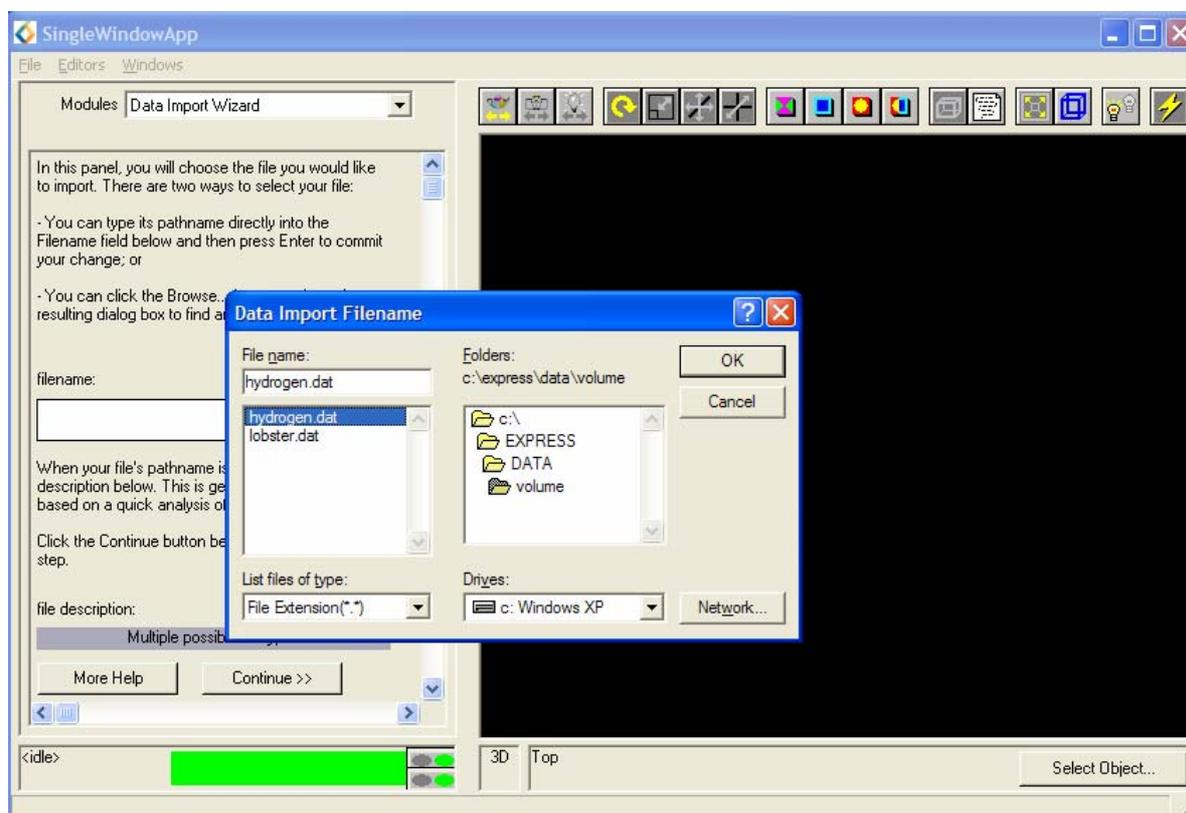

Figure C.8: Data Import Filename Browser
- Select the **browse**3 button in the Data Import Wizard Editor Panel. The file browser should appear. (Figure C.8)